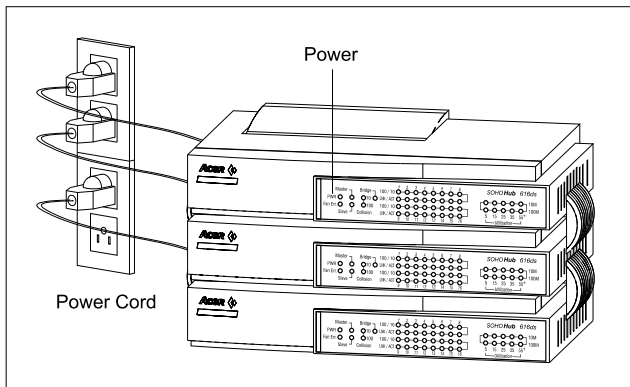

Figure 2-9 Stack multiple hubs together
2.2.5 Plug the power cord into the outlet on wall and check if the power LED lights up. The hub is ready for network connection if the power LED lights up, as shown in Figure 2-9.